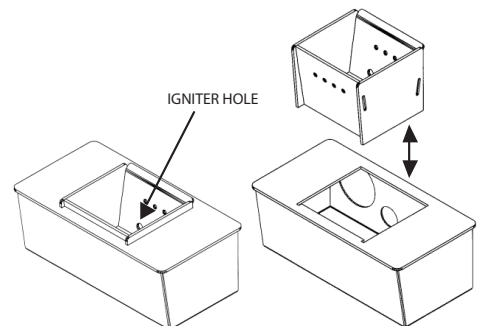

FIGURE 24
- With the door closed clean heat exchanger tubes. (See “CLEANING” and Figure 24).
- Open door and remove the optional imitation log set, if in use. Remove the burnpots inner section by grasping it and pulling straight up (see Figure 24).
- Replace inner section into burnpot; make sure it is level and pushed all the way back down and that the igniter hole is to the rear when it is reinstalled (see Figure 24).